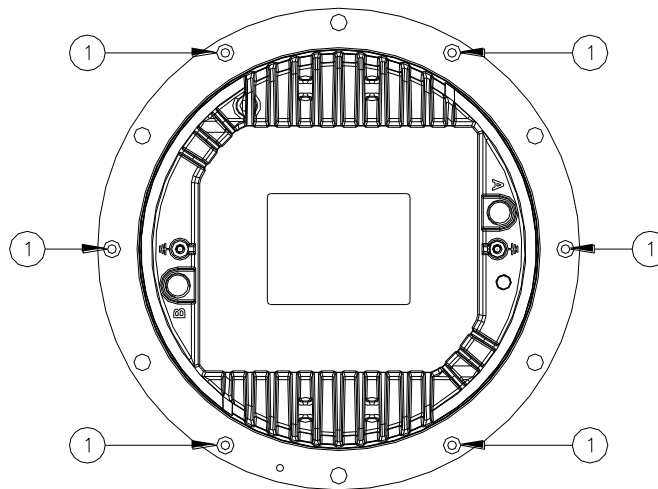

Figure 16 - Lower Cover Fixing Screws
- Open the fixture by unscrewing the six locking screws TORX SFH M5x16 (Figure 16 - n°1).
- six locking screws TORX SFH M5x16 (Figure 16 - n°1);
Verify the correct position of the two O-Ring between dome and lower cover (Figure 18 – n°2 and 3); mount the lower cover on the dome and fasten it by means the six screws TORX SFH M5x16 (Figure 16 - n°1). One drop of anaerobic adhesive lower type (e.g. LOXEAL 24-18) should be applied to the screws before installation; tightening torque is 2.5 Nm.